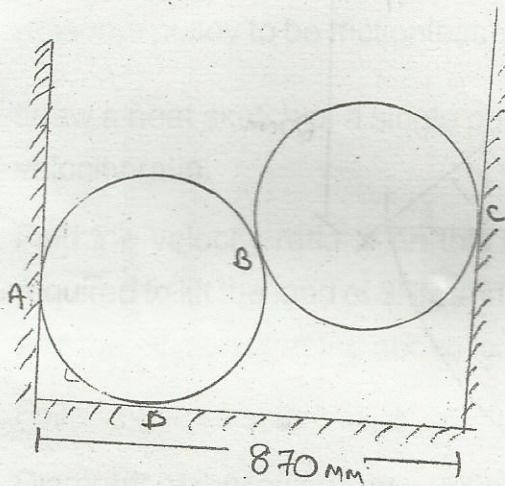

Fig. 4
- b) Two smooth spheres each weighing 100N and radius 250mm are in equilibrium in a channel section as shown in fig. 4. Find the reaction at all contacting points A, B, C and D assuming all the surfaces to be smooth.